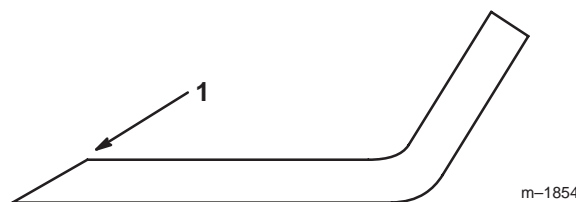

Figure 33
1. Use a file to sharpen the cutting edge at both ends of the blade (Fig. 33). Maintain the original angle. The blade retains its balance if the same amount of material is removed from both cutting edges.